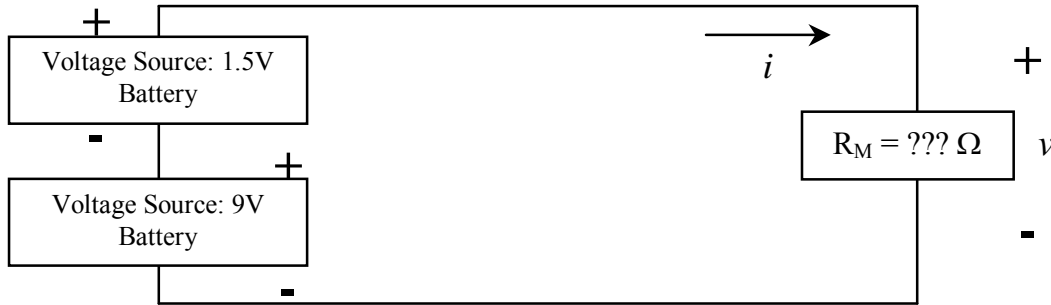

Figure P2-3 - Circuit for Procedure 2.e.
e. (2 points) Connect the 9V battery and the 1.5 V battery in series across the mystery resistor  $R_M$ . See Figure P2-3. Repeat steps b and c.